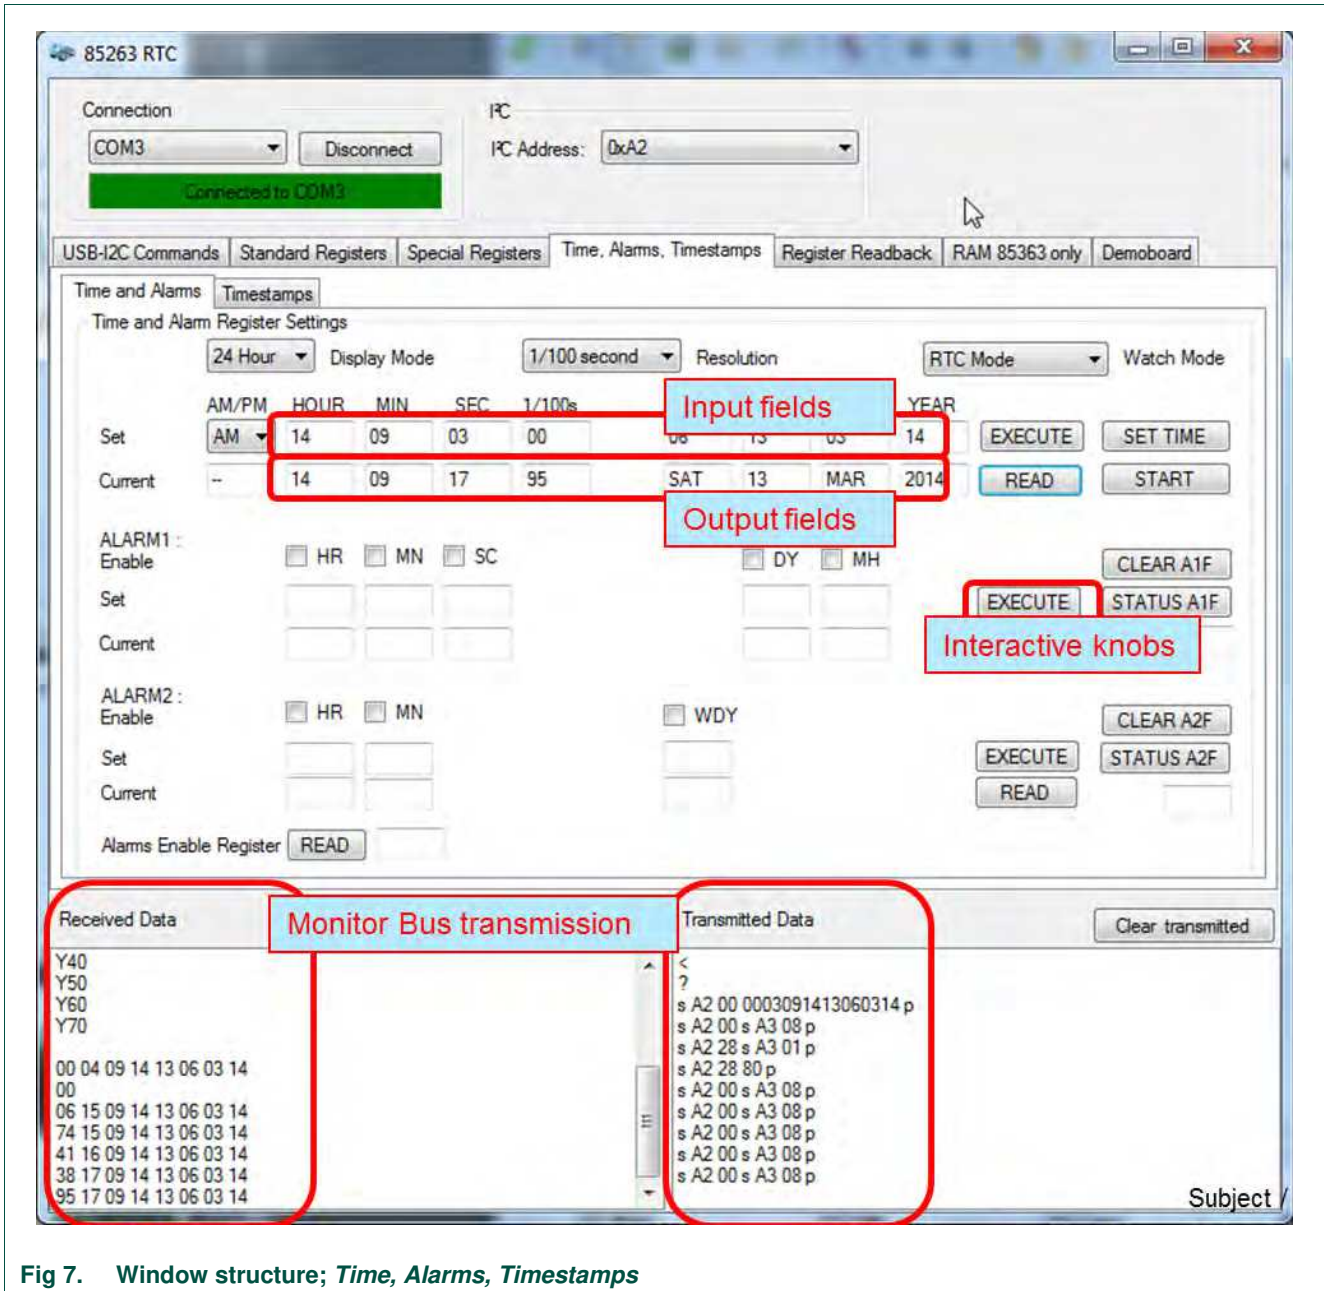
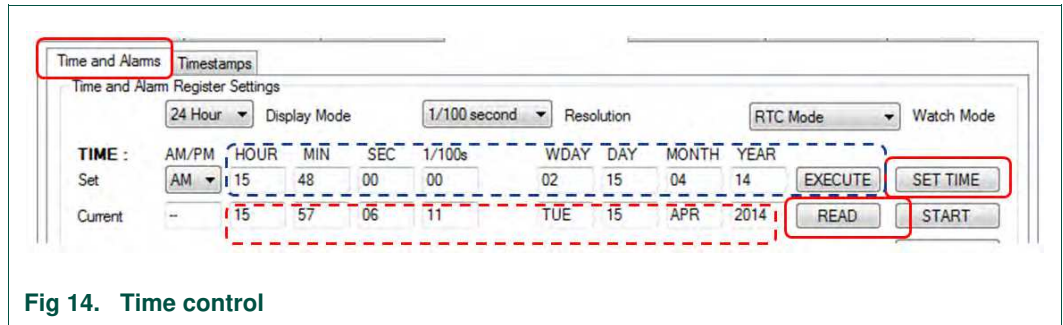

Fig 7. Window structure; Time, Alarms, Timestamps
Fig 14. Time control
The objective is to have a fast and straight forward control of all the functions of the RTC. The principle for controlling is explained on the window *Time, Alarms, Timestamps* in Fig 7.
3. Set the time and read back to verify that the clock is running (see Fig 7).
- The *SET TIME* programs the actual time based on your PC (see Fig 7 and Fig 14).
- *READ* reads the current time and date of the RTC (see Fig 7 and Fig 14).
- *START* will continuously read the time at about once every second (see Fig 7 and Fig 14).
There are options to change from *24 hour* to *12 hour* mode, activate the *1/100s* resolution and change the RTC from *RTC mode* (clock mode) to *stop watch mode* (see Fig 7 and Fig 14).